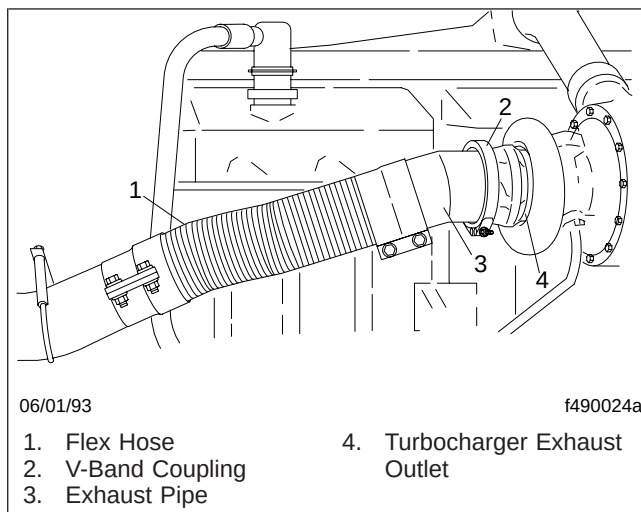

Fig. 1, V-Band Coupling and Flex Hose
2. Inspect the exhaust flex hose (see Fig. 1) for leakage, wear, or damage. Replace with new parts if replacement is needed.
3. Check for leakage at the V-band coupling that attaches the exhaust pipe to the turbocharger exhaust outlet. See Fig. 1.